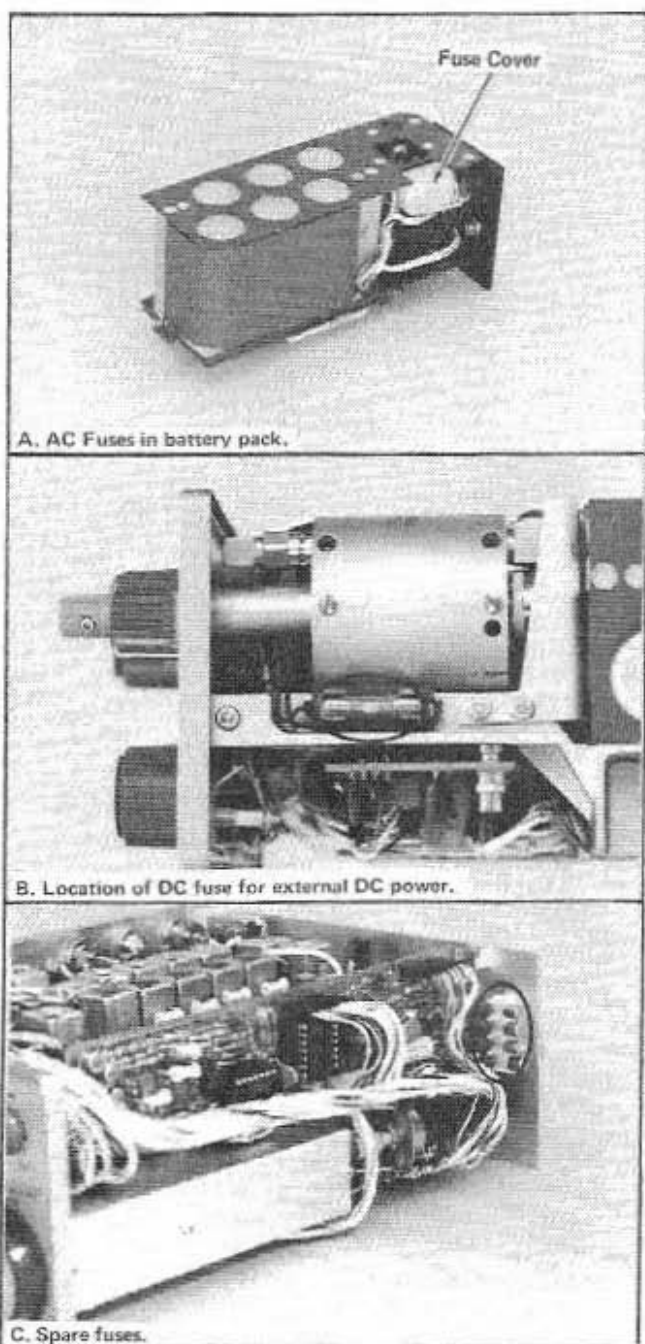

Fig. 4-6. Location and size of fuses in 1401A.
4. Check fuses, power supply voltages, then circuit voltages and waveforms. Fuse location and sizes are shown in Fig. 4-6. The schematic diagrams contain pertinent voltages and waveforms for this purpose. Component locations and test points are shown on circuit board callout illustrations.